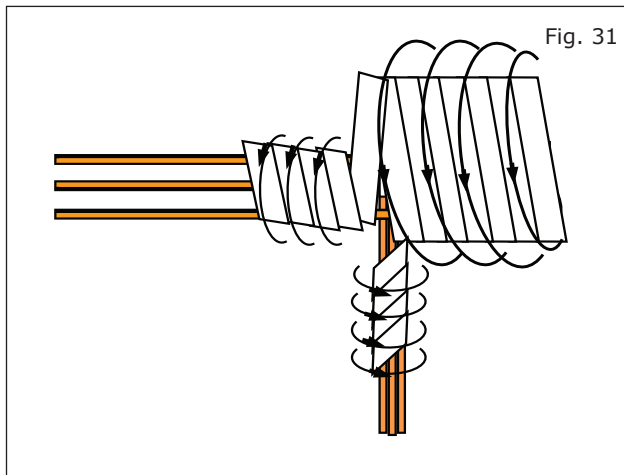

Fig. 31
- 36) Foam wrap for posi-tap bundle (foam strips) (Fig. 31)